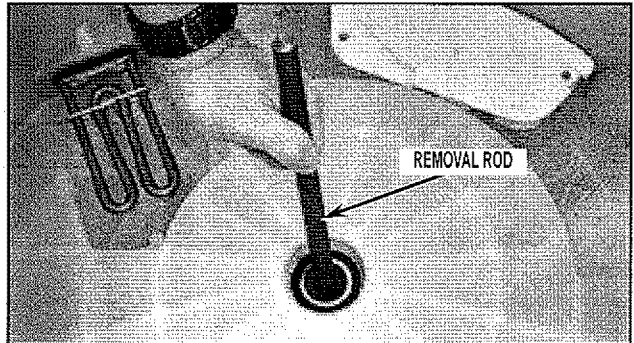

FIGURE 9
13. Drive Bottom Bearing, Bottom Bearing Washer and Spacer Tube out using Removal Rod and hammer. See Figure 9.